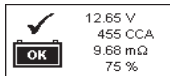

Fig.58
2. Select View Test Results:  by pressing ► key and then  key. The stored results will show as examples (Fig.58, 59, 60, 61&62) below: